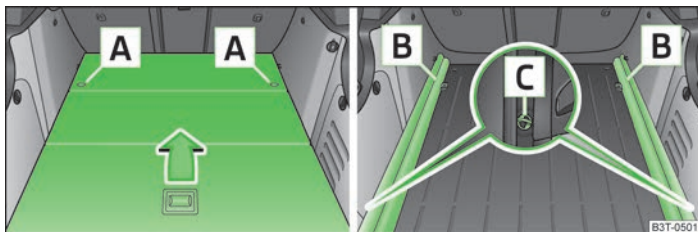

Fig. 71 Boot: Remove variable loading floor/remove carrier rails
- › Unlock the variable loading floor by turning the safety eyes **A** » Fig. 71 to the left by around 90°.